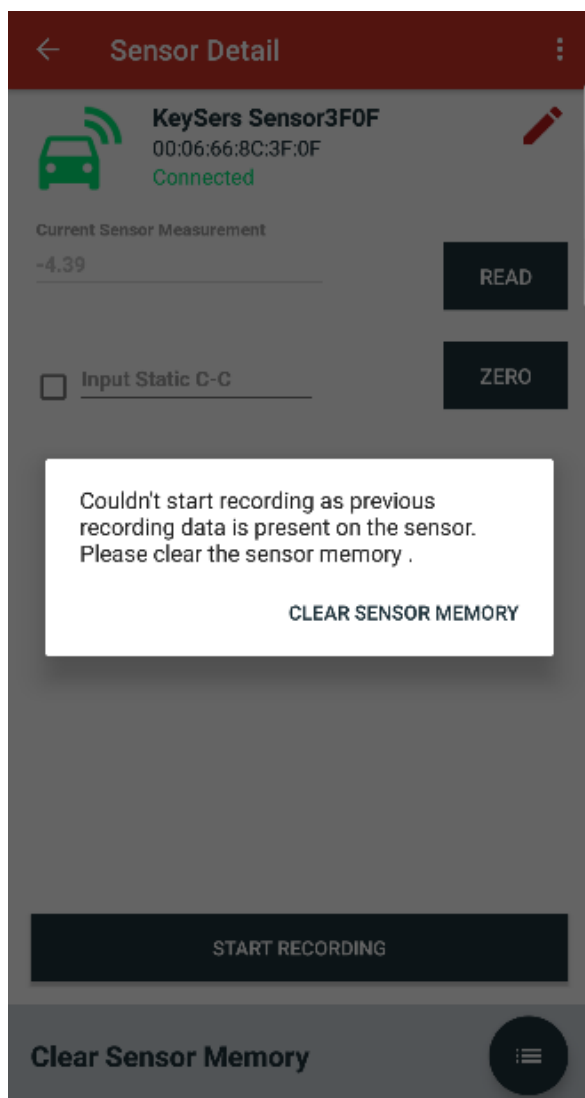

Figure 21: Clear search history notification
7. A screen, shown in Figure 21, may present itself if there have been other sessions recorded in the past. It will ask about clearing sensor memory due to there still being recorded data in the sensor. It is OK to select “CLEAR SENSOR MEMORY” as long as the previous data has been saved and accounted for.